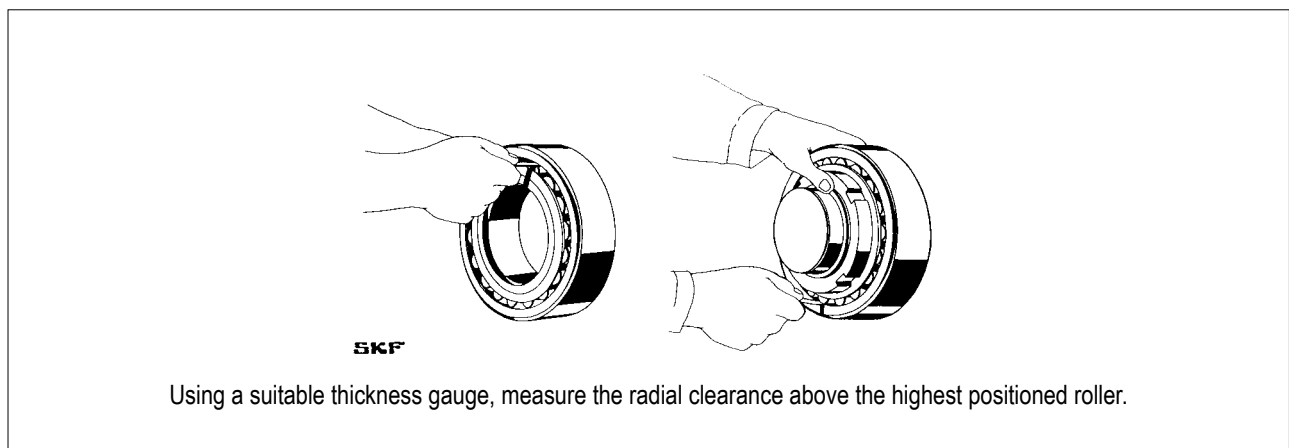

FIG. 23 (Verification of the correct assembly)
5.6.2- Assembling indirect drive fan with detached supports (SNL 515 - 516 ...) (FIG. 23/ and FIG. 24/)
- 8) Remove the two upper shells of the supports and fasten the bearings to the electric motor shaft pulling the ring nut. To verify the correct assembly, with suitable thickness meters (e.g. SKF) (**FIG. 23**), check that the residual clearance complies with the tolerance as per ;